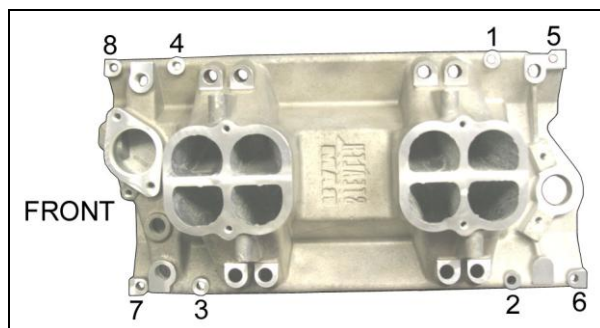

Figure 1b
7. It is very important that the intake manifold is torqued properly or damage to the gasket will occur. Tighten all eight bolts, in the sequence shown in Figure 1b to 30 inch/pounds. Then tighten to 60 inch/pounds. Finally tighten to 132 inch/pounds (132 inch/pounds = 11 foot/pounds).